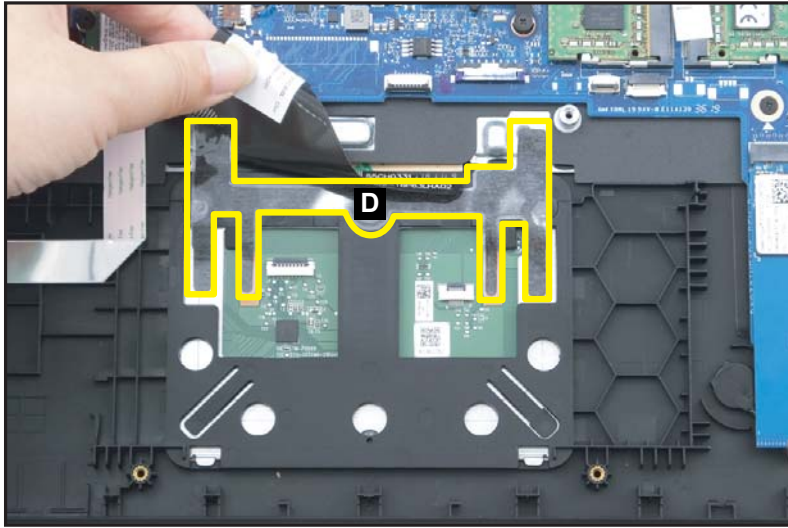

Figure 1-101. Replacing the Touchpad Module
4. Attach the touchpad conductive tape (D) onto the touchpad module and top assembly (Figure 1-101).